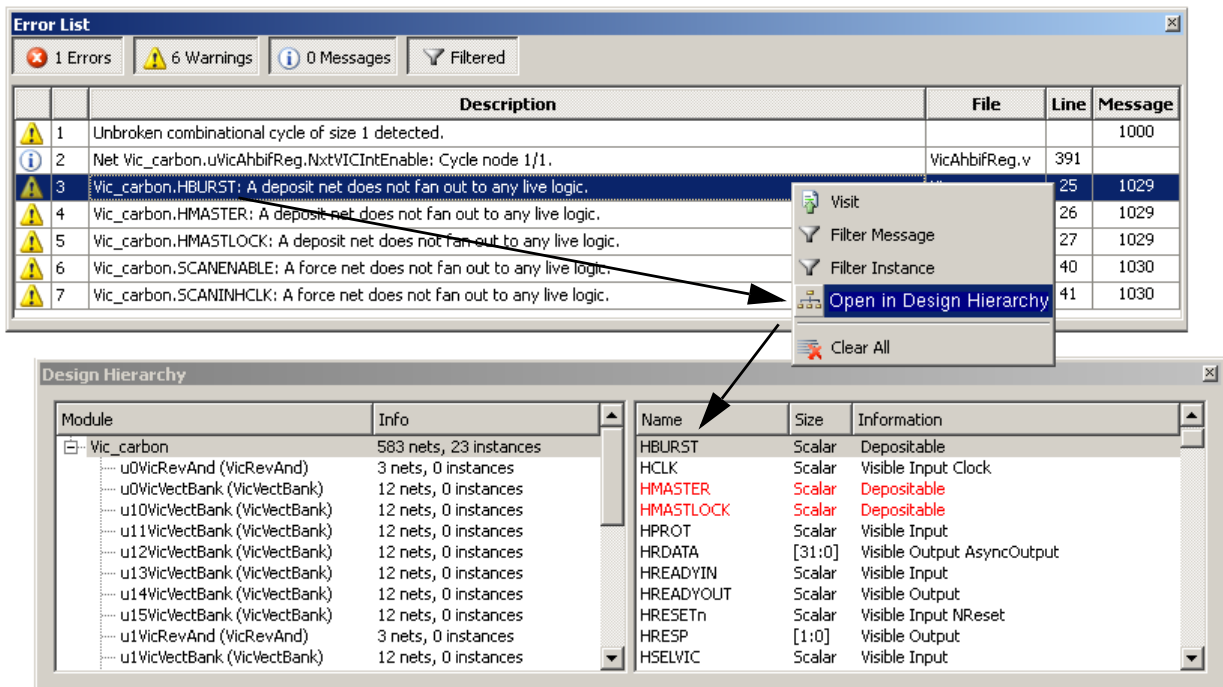

Figure 2-40 Error List Link to Design Hierarchy
- Select the *Open in Design Hierarchy* option to see the hierarchical view of the item (Figure 2-40).